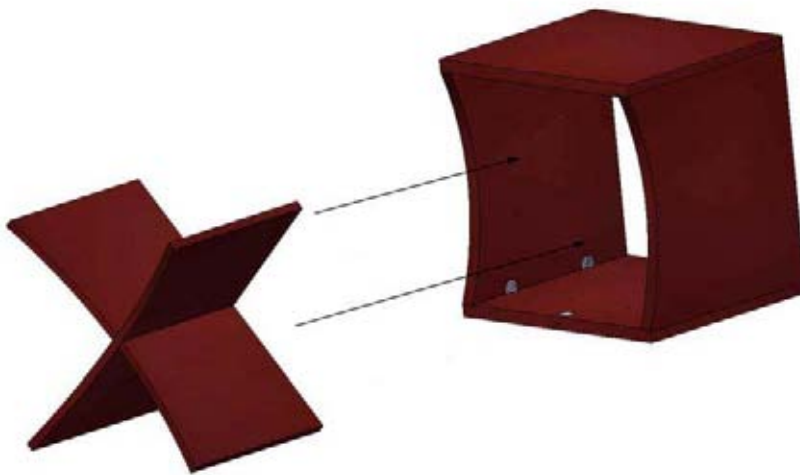

Figure 2
2. The diamond insert is now complete and can be inserted into the finished wave cube (**Figure 2**).